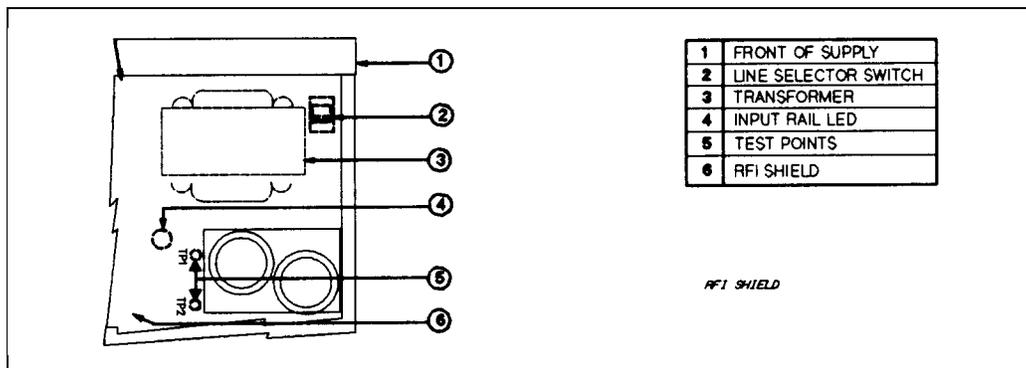

Figure E-1. Line Select Switch
4. Slide the dustcover back far enough to expose the line select switch (see Figure E-1).